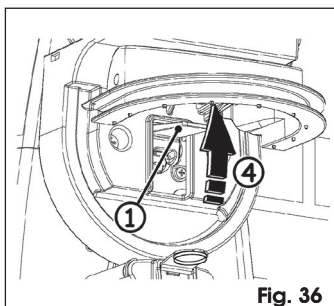

Fig. 36
2. Pull the release lever until it stops, (Fig. 36 ref. ①)